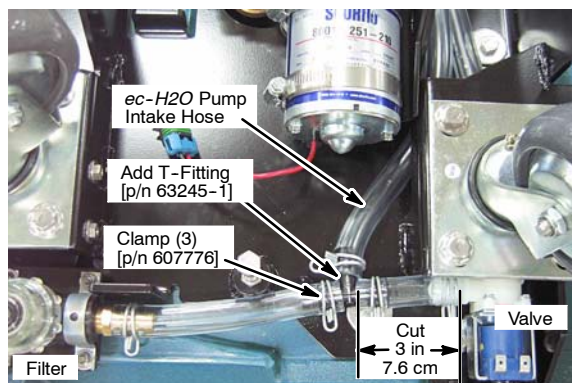

Fig. 36
4. Cut the solution hose located between the valve and filter as described below (Fig. 36). Using the black T-fitting [p/n 63245-1] and 3 wire clamps [p/n 607776], connect the *ec-H2O* pump intake hose to cut hose as shown (Figure 36).